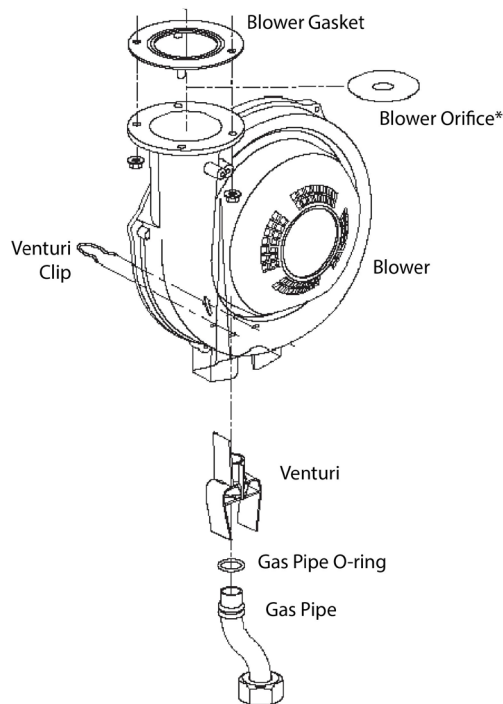

Fig. 3: Blower Assembly
8. For Challenger models 85 and 105 only, remove the blower orifice and save to be reinstalled. See Fig. 3.
10. Remove the gas pipe & venturi assembly from the blower inlet, See Fig. 3.